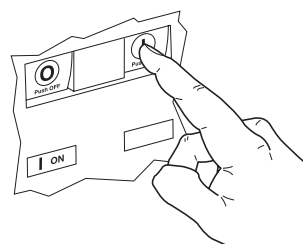

Fig. 3
■ Press the ON button. The ON indication is displayed (see Fig. 3).